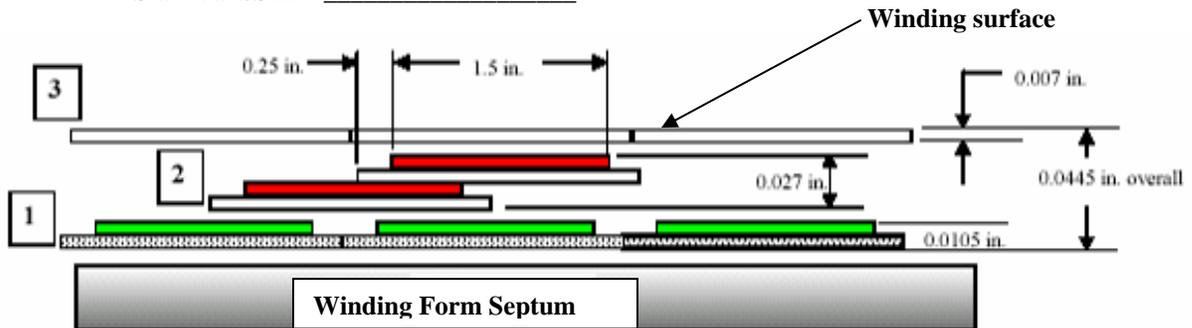

Figure 6- Groundwrap scheme
- Apply pre-cut layers (approximately 18 inches long) of ground wrap insulation Figure 6- Groundwrap scheme